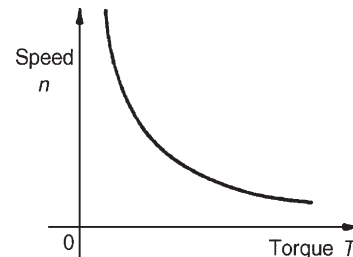

Figure 22.23
- (iii) The theoretical **speed/torque characteristic** may be derived from (i) and (ii) above by obtaining the torque and speed for various values of current and plotting the co-ordinates on the speed/torque characteristics. A typical speed/torque characteristic is shown in Fig. 22.23.